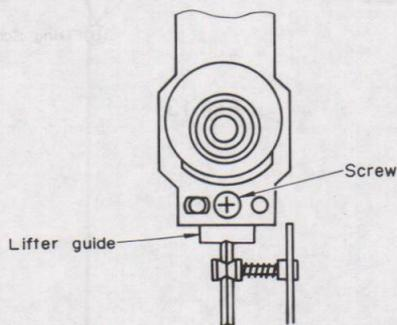

Fig. 16
- 5) Remove screw in Fig.16 and remove lifter guide from tone arm.